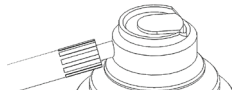

Fig. 5
3. Fit spray appropriate adapter onto universal cap nozzle of Brasseler Handpiece Spray (5029861U0) (Fig. 5).